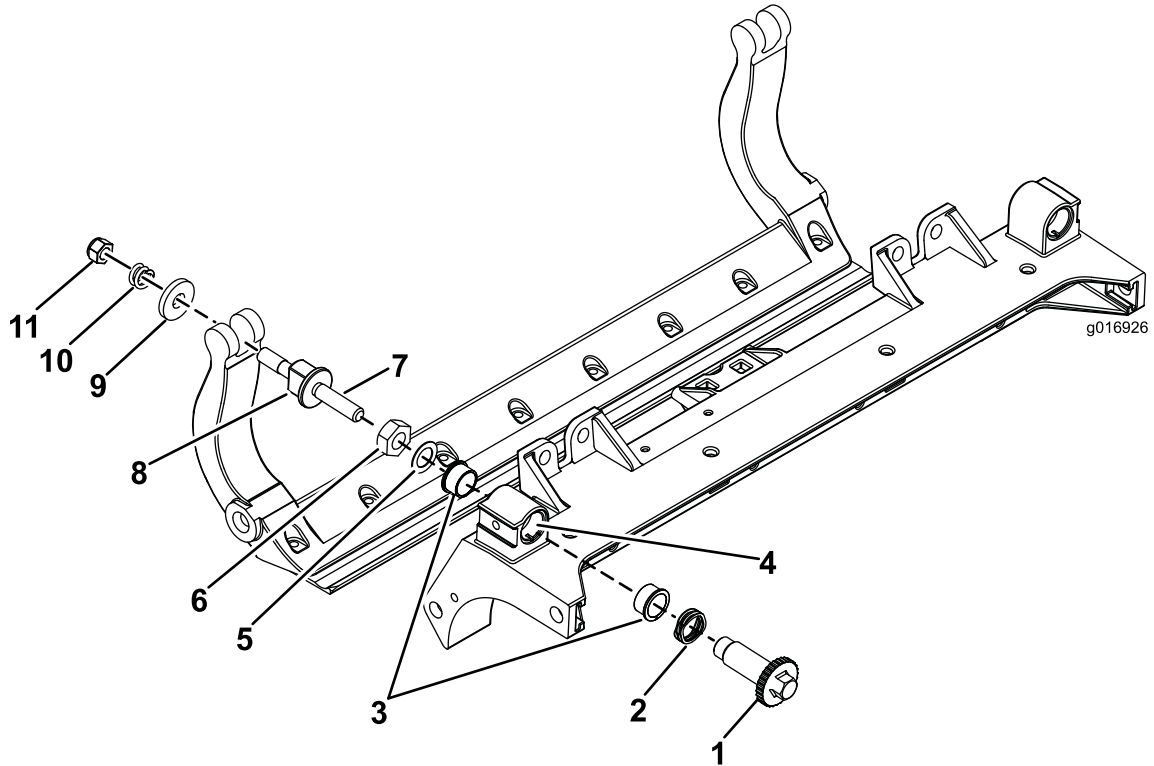

Figure 42
1. Remove all parts (refer to the *Installation Instructions* for the HD DPA Kit and to Figure 42).
2. Apply anti-seize compound to the inside of the bushing area on cutting unit center frame (Figure 42).
3. Align the keys on flange bushings to the slots in the frame and install the bushings (Figure 42).
4. Install a wave washer onto the adjuster shaft and slide the adjuster shaft into the flange bushings in the frame of the cutting unit (Figure 42).
5. Secure the adjuster shaft with a flat washer and locknut (Figure 42).
12. Place a steel washer outside each of the nylon washers (Figure 42).
Note: The washers on the inside may have a gap (Figure 42).
15. Tighten the nut on each bedbar-adjuster assembly until the compression spring is fully compressed, then loosen the nut 1/2 turn (Figure 42).